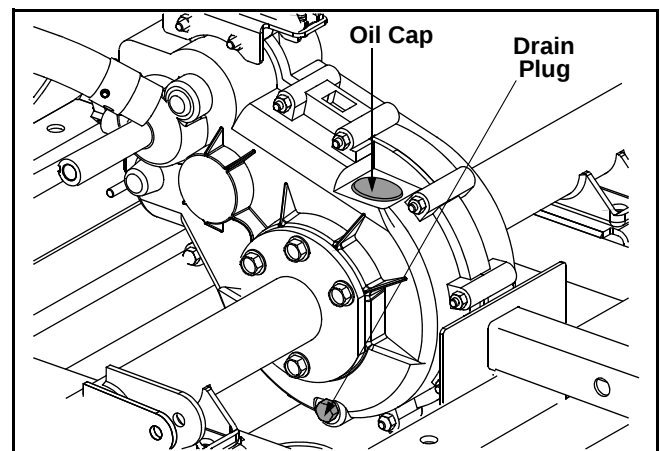

Figure 17
- Access drain plug through slot on underside of machine and remove plug. See Figure 17.